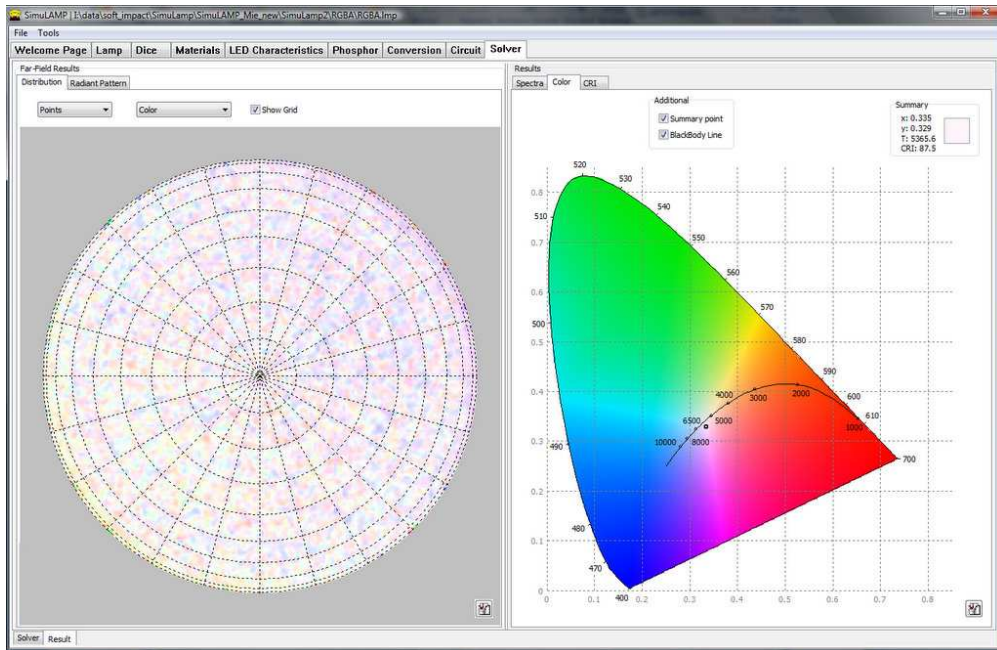

Fig. 31
- ✓ **Temperature** (K) – the correlated color temperature distribution.
- **Color** tab presents the following information (see **Fig.31**):